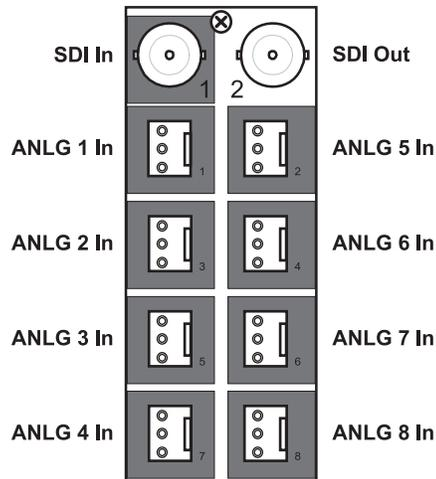

Figure 10 Cabling for the 8320AR-034
- **DFR-8310 series frame** — The **8310AR-034** Rear Module is required. Note that the MUX-8258-8C is not compatible with the DFR-8310-BNC frames. This rear module provides one SDI input, one SDI output, and eight analog inputs. (**Figure 10**)
- **DFR-8320, OG3-FR, and OGX-FR series frames** — The **8320AR-034** and **8320AR-034A** rear modules are supported. Each rear module provides one SDI input, one SDI output, and eight analog inputs. (**Figure 10**)